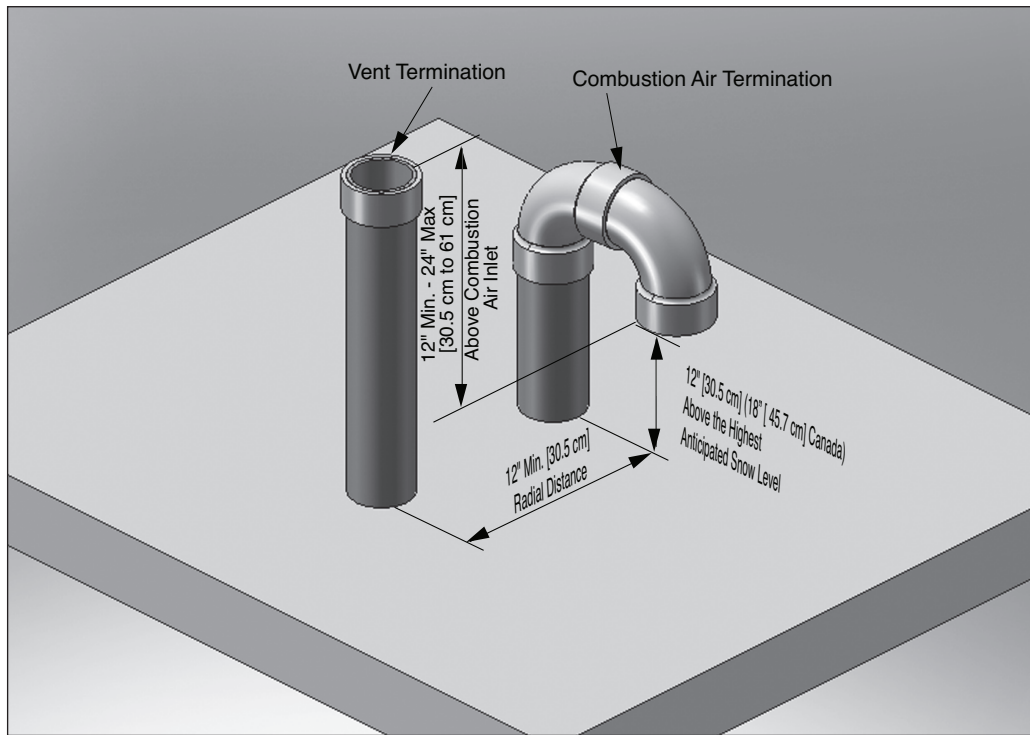

Fig. 1 - Direct Vent - Vertical Termination of Vent and Combustion Air Piping.
2. The combustion air piping must terminate in an upside down "U" shape fashion using two 90° elbows, as shown in *Fig. 1 on page 12*. The termination must be located 12 in. [30.5 cm] (18 in. [46 cm] Canada) above the highest anticipated snow level.
3. The vent piping must terminate vertically with a coupling to accept the bird screen and must be located 12 in. to 24 in. [30.5 cm to 60 cm] above the combustion air inlet as shown in *Fig. 1 on page 12*.
4. The vent and combustion air terminations must be located at a radial distance of 12 in. to 24 in. [30.5 cm to 60 cm] from centerline of vent termination to centerline of air termination as shown in *Fig. 1 on page 12*.
3. Locate the vent and combustion air pipe penetrations to provide clearances as described in **Fig. 1 on page 12**.
2. The combustion air piping must terminate in an upside down "U" shape fashion using two 90° elbows as shown in *Fig. 1* on page 12.
3. The vent piping must terminate vertically with a coupling as shown in *Fig. 1* on page 12.
Do not extend the vent pipe above the roof beyond the dimensions shown in *Fig. 1* on page 12. Extended exposure of the vent pipe could cause condensate to freeze and block the vent pipe, resulting in substantial property damage, serious injury, or death